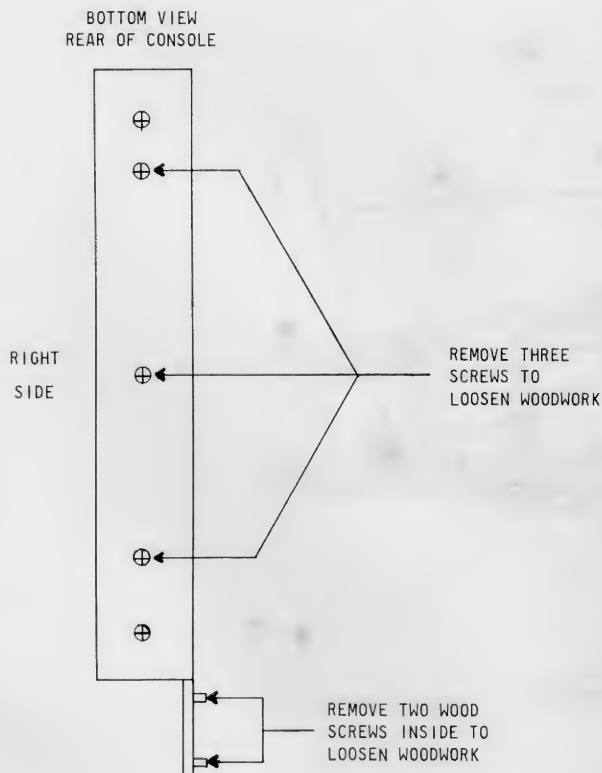

Fig. 3-1
- 3-15. UPPER CONSOLE WOODWORK.** — Locate five Phillips head woodscrews at right side of console as viewed from bottom of upper console assembly. Remove center three as illustrated in Figure 3-1. Remove lower manual cover which contains the pedal light and headphone jack by removing four Phillips head machine screws. Care must be taken not
to break the connections to the phone jack when cover is freed from console. Inside below the lower manual right end block, remove two slotted hex head woodscrews as illustrated in Figure 3-1.